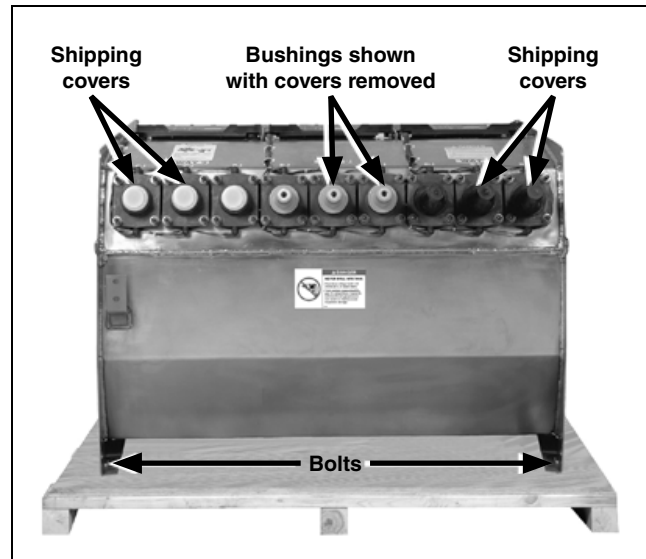

Figure 50. A Vista switchgear tank bolted to a skid in four places for shipment. (Manual unit shown for illustration purposes.)
- STEP 2.** Unbolt the tank from the skid, remove the tank from its crate, and lift the gear into place, observing the precautions given in the “Handling” section on page 8. See Figure 3 on page 8 and Figure 50.